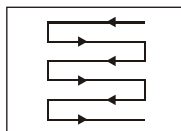

Fig. 25
4. Mow in slight overlapping rows. The most effective pattern for mowing lawns is straight lines along one of the sides. This will keep the rows even and ensures that all the lawn is cut without missing any spots (Fig. 25).